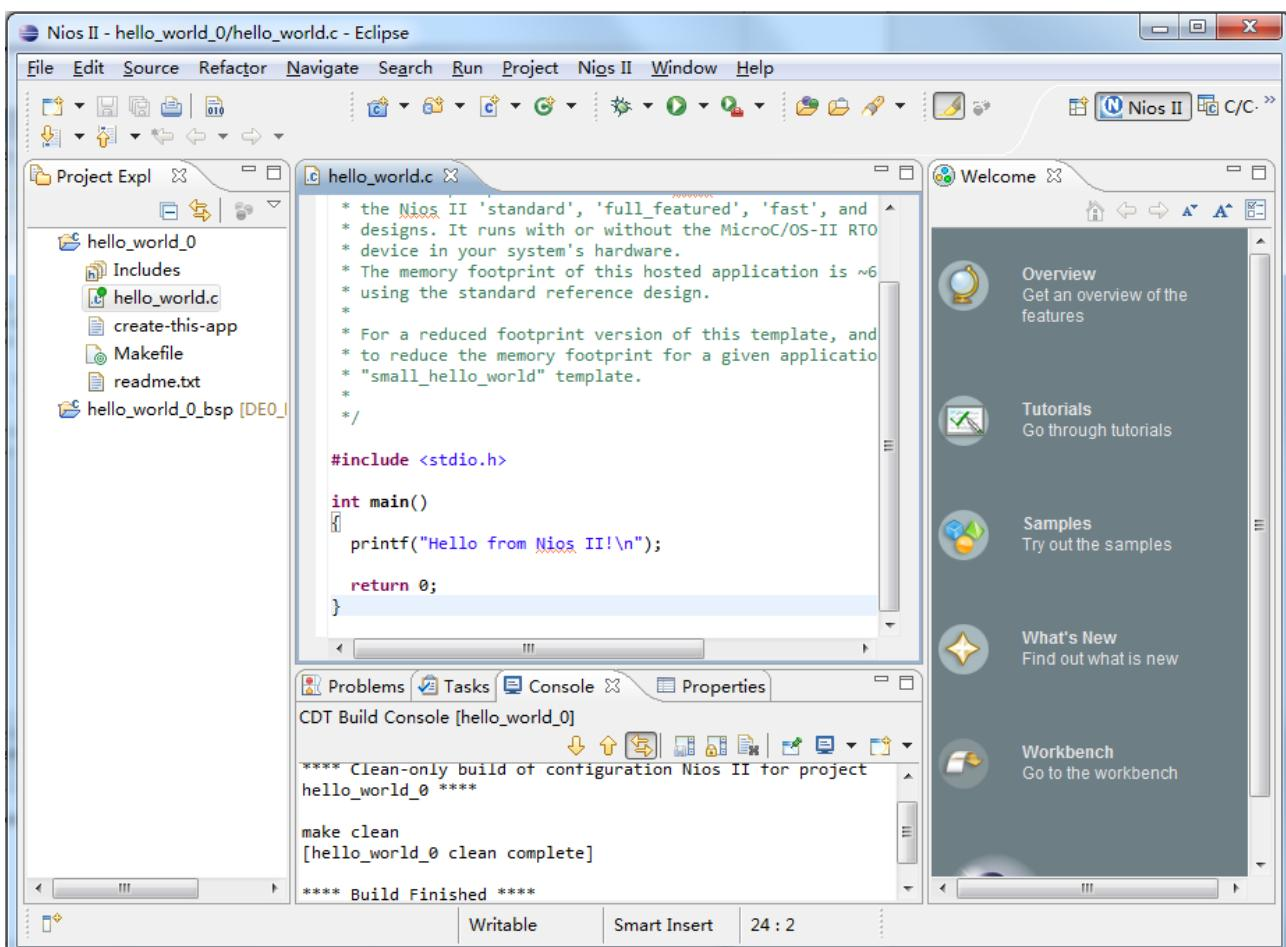

Figure 2-4 Eclipse Project Perspective for hello_world_0
5. Click **Finish**. The **NIOS II SBT for Eclipse** creates the **hello_world_0** project and returns to the Nios II C/C++ project perspective. See **Figure 2-4**.